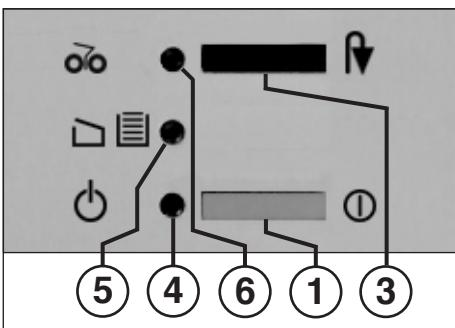

fig. 1
#### 1 = Pushbutton switch (fig. 1) "Ready" / "Off" / "Stop"
#### 3 = Pushbutton switch „reverse“ (fig. 1)
#### 4 = Pilot lamp „ready“ (fig. 1)
„receptacle full“ / „door open“ (fig. 1)
#### 6 = Pilot lamp „paper jam“ (fig. 1)
- Turn machine on with pushbutton switch (1) (fig. 1). Pilot lamp lights up (4) (fig. 1).
Please make sure that the shredder is switched off over night (pushbutton switch (1) (fig. 1).